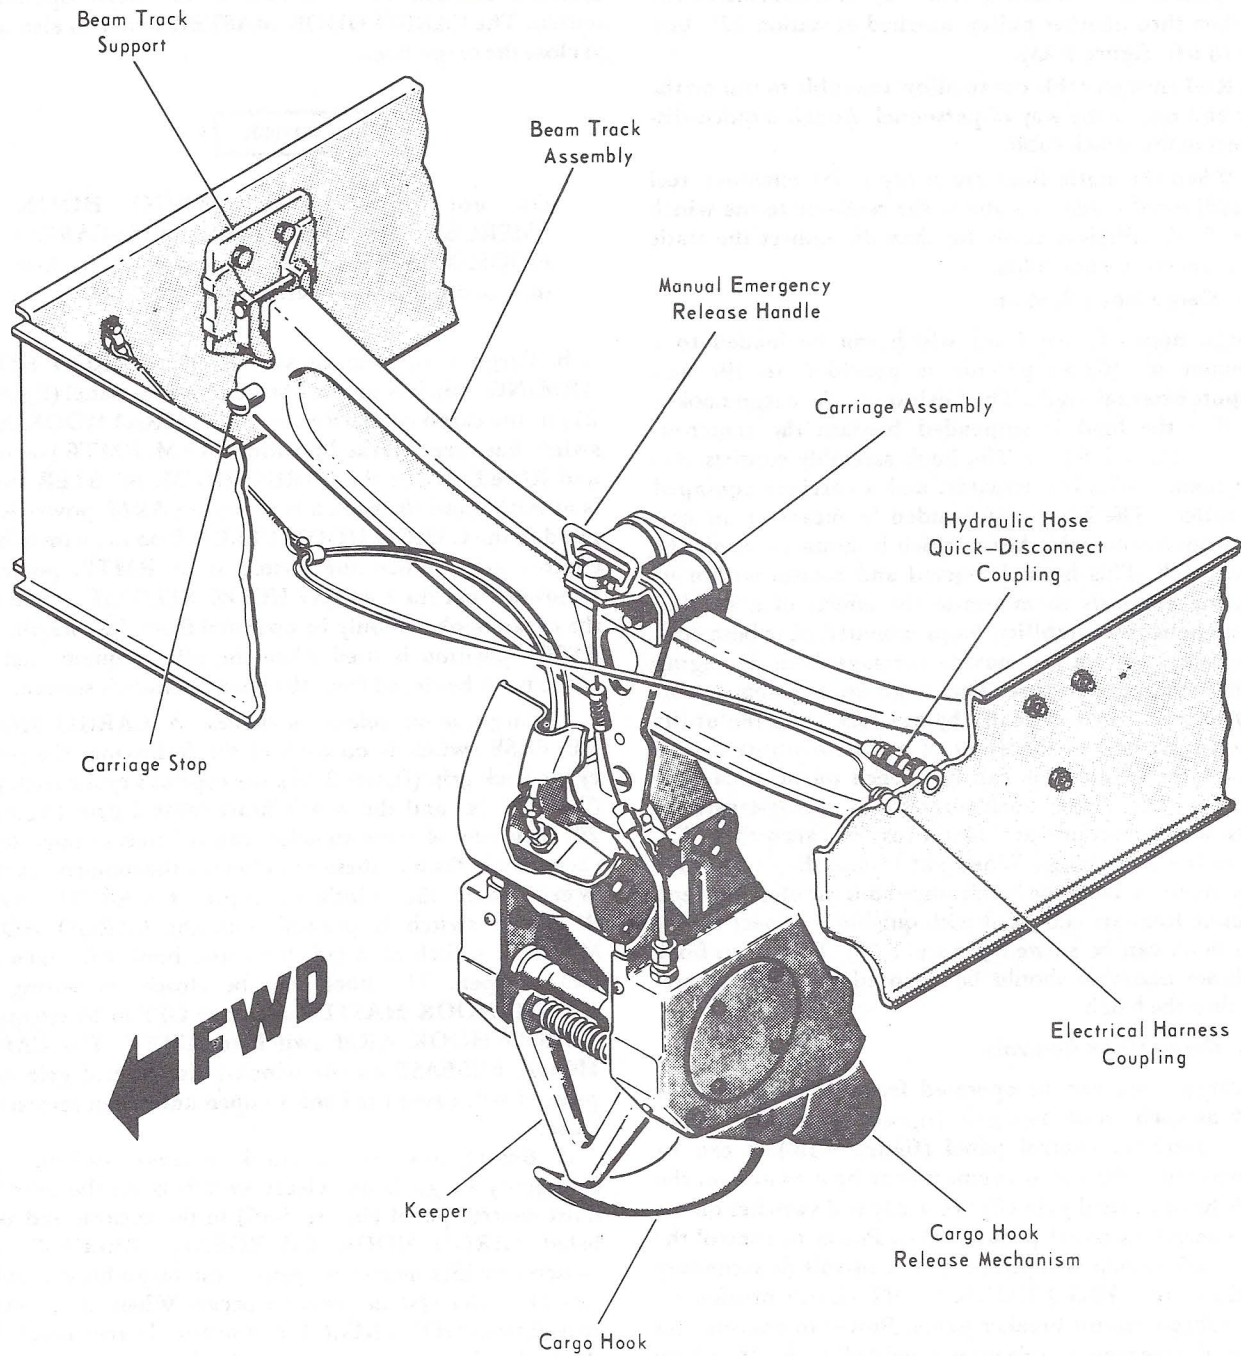
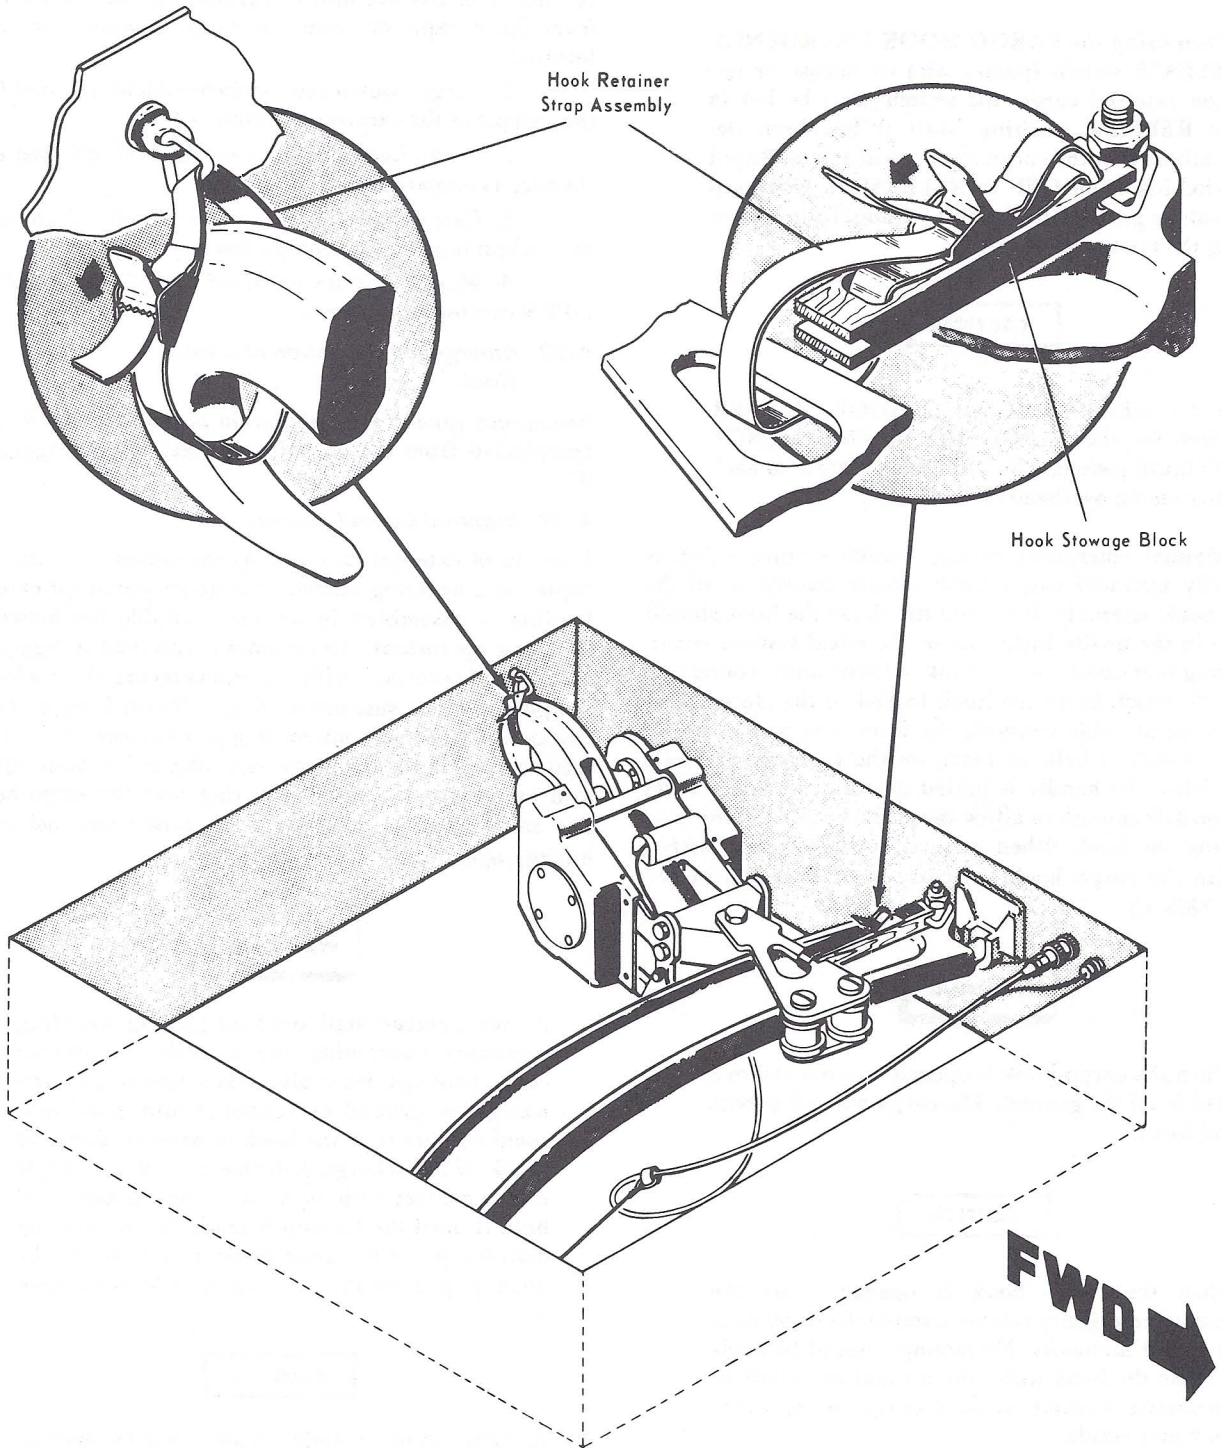

Figure 4-24. Cargo Hook
Figure 4-25. Cargo Hook Stowage
A cargo hook (figure 4-24) which can be loaded to a maximum of 16,000 pounds is provided to lift and transport external loads. The position of the cargo hook is such that the load is suspended beneath the center-of-gravity of the helicopter. The hook assembly consists of a cargo hook, hydraulic actuator, and a carriage equipped with rollers. The hook is suspended by means of the carriage from a removable beam which is mounted inside the rescue hatch. This beam is curved and rotates within its mounting supports to minimize the effects of a shifting load on helicopter stability. Stops mounted near both ends of the beam prevent the moving carriage from damaging the surrounding structure. The cargo hook system is normally operated hydraulically by pressure from the utility hydraulic system. In the event of a loss in utility system pressure, the cargo hook can be opened pneumatically or manually. The cargo hook contains a spring-tensioned keeper which prevents accidental loss of cargo thru slippage of the sling rings. When not in use, the cargo hook can be removed from the hatch since both the electrical and hydraulic lines are equipped with quick-disconnects or the cargo hook can be stowed (figure 4-25). The cargo hook and beam assembly should be removed for rescue operations thru the hatch.
e. Manual emergency release handle (figure 4-24). A manually operated cargo hook release handle is on the cargo hook assembly. It is used to release the hook should failure in the utility hydraulic or electrical systems occur. A spring-tensioned cargo hook release lever controls a camshaft which keeps the hook locked in the closed position. A metal cable connects the lever arm to the release handle which is held in place on the carriage by metal clips. When the handle is pulled upward, the lever moves the camshaft enough to allow the cargo hook to swing free, releasing the load. When manual release is used with a load on the cargo hook, an entry must be made in DA Form 2408-13.